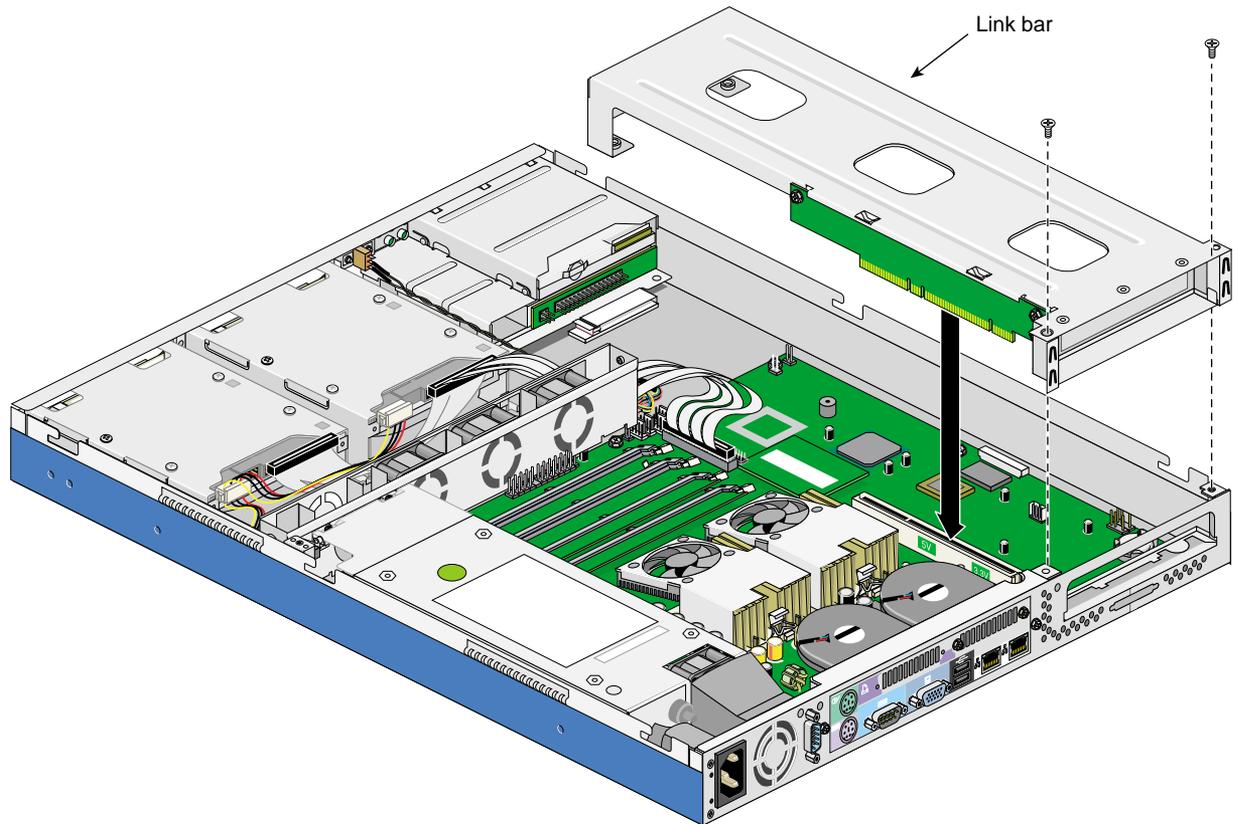

Figure 2-5 Installing the Link Bar
1. Insert the link bar into its slot by pushing the assembly straight into the PCI slot until it is properly seated, as shown in Figure 2-5.
2. Tighten two screws to the rear panel as shown in Figure 2-5.